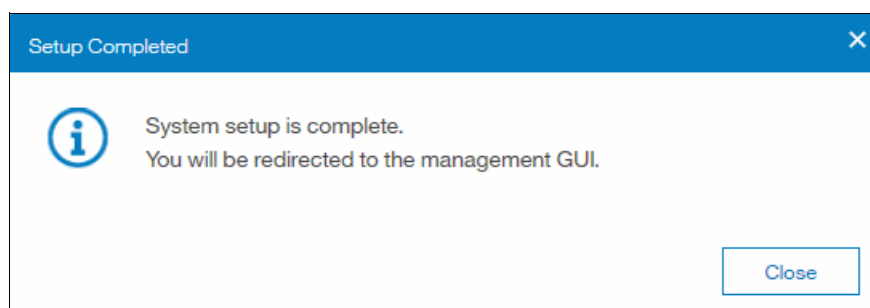

Figure 6-106 Setup Completed status pane
4. On the Setup Completed (Figure 6-106 on page 242), click **Close**.